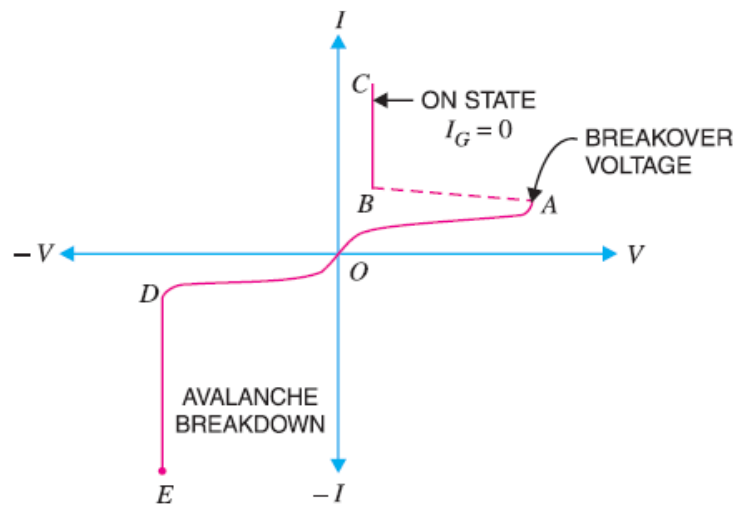

FIG:4 VI CHARACTERISTIC OF SCR
It is the curve between anode-cathode voltage (V) and anode current (I) of an SCR at constant gate current. Fig. 4 shows the V-I characteristics of a typical SCR.
When anode is positive w.r.t. cathode, the curve between V and I is called the forward characteristic. In Fig. 4, OABC is the forward characteristic of SCR at $I_G = 0$. If the supply voltage is increased from zero, a point is reached (point A) when the SCR starts conducting. Under this condition, the voltage across SCR suddenly drops as shown by dotted curve AB and most of supply voltage appears across the load resistance R_L . If proper gate current is made to flow, SCR can close at much smaller supply voltage.